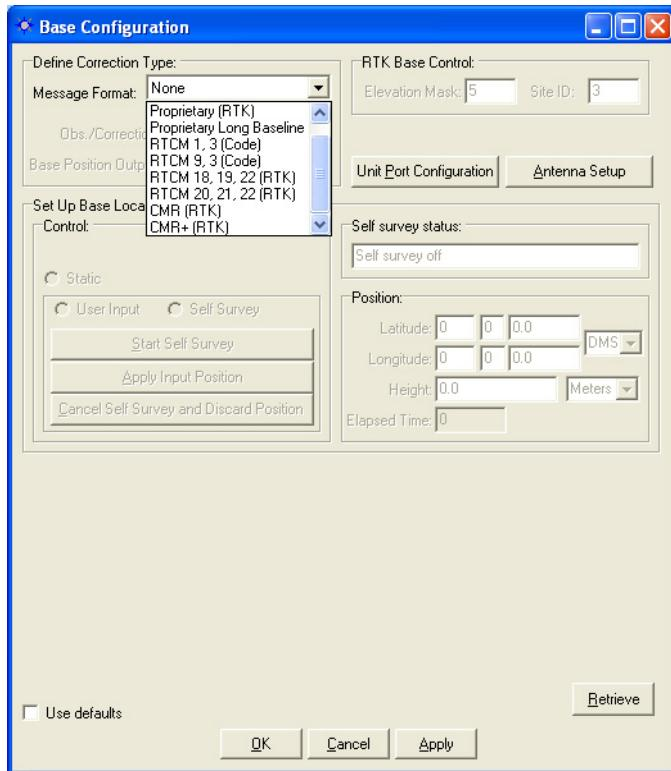

Figure 32: Base Configuration Window
6. Click the  icon on the toolbar to configure the base station. The *Base Configuration* window opens (see Figure 32).
Refer to Figure 32 for the steps below: